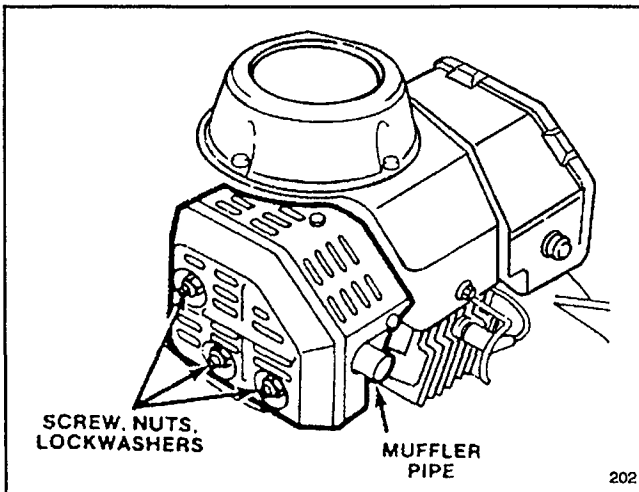

Figure 21
1. Use hard wood scraper and remove carbon from end of muffler pipe (Fig. 21).
2. Remove screw, two nuts, and lockwashers (Fig. 21). Slide muffler off mounting pins.
5. Reinstall muffler with screw, (2) nuts and lockwashers (Fig. 21). After cleaning exhaust port, make sure muffler gasket is still usable.